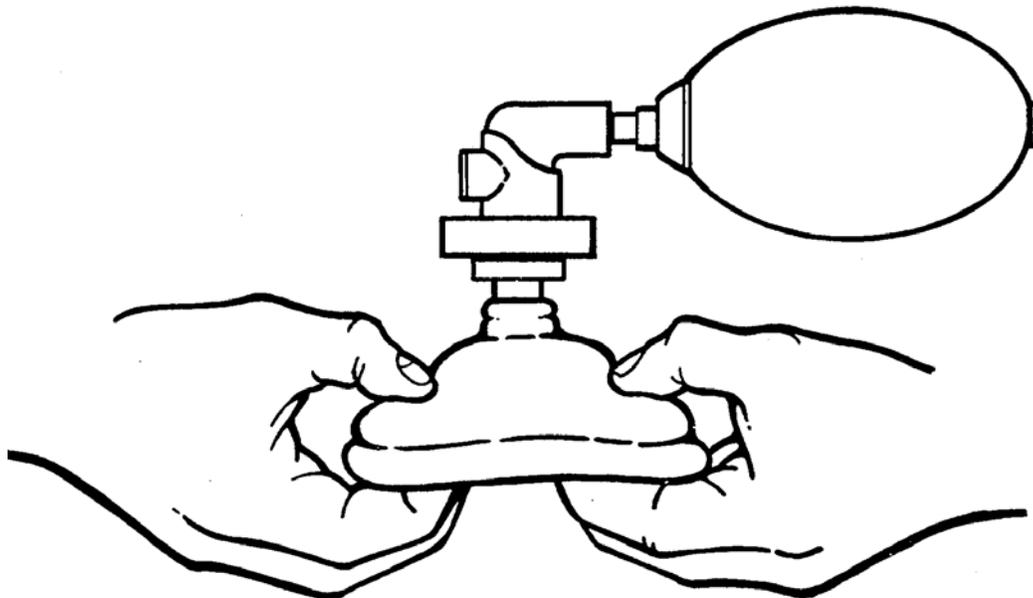

Figure 2-7. Stretching the mask.
d. **Stretch Mask.** Check the mask and bag to ensure that they are in working order (no rips, etc.). Then stretch the mask on both sides with your thumbs and fingers (figure 2-7) so that the mask will fit the patient.